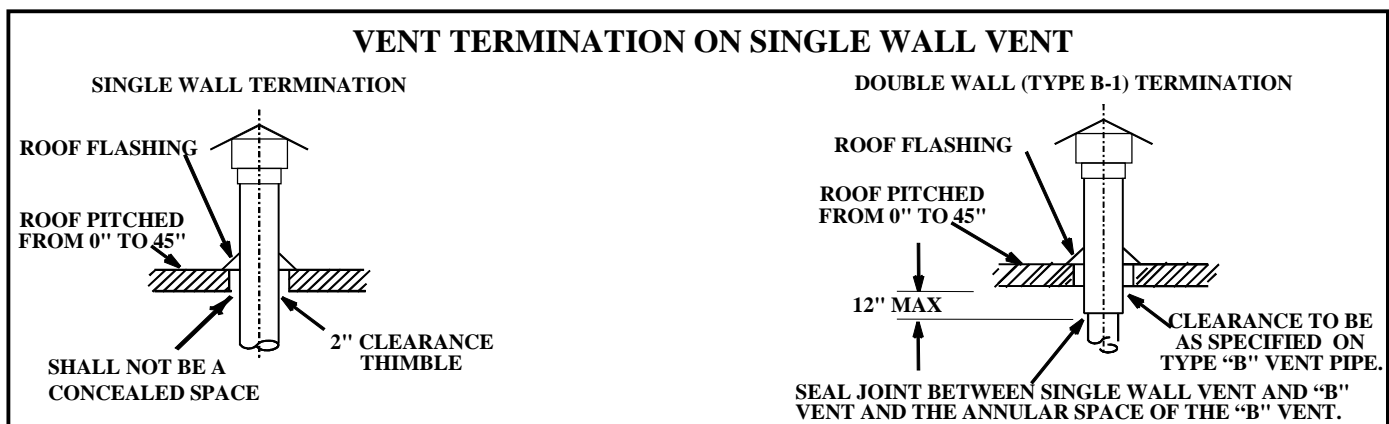
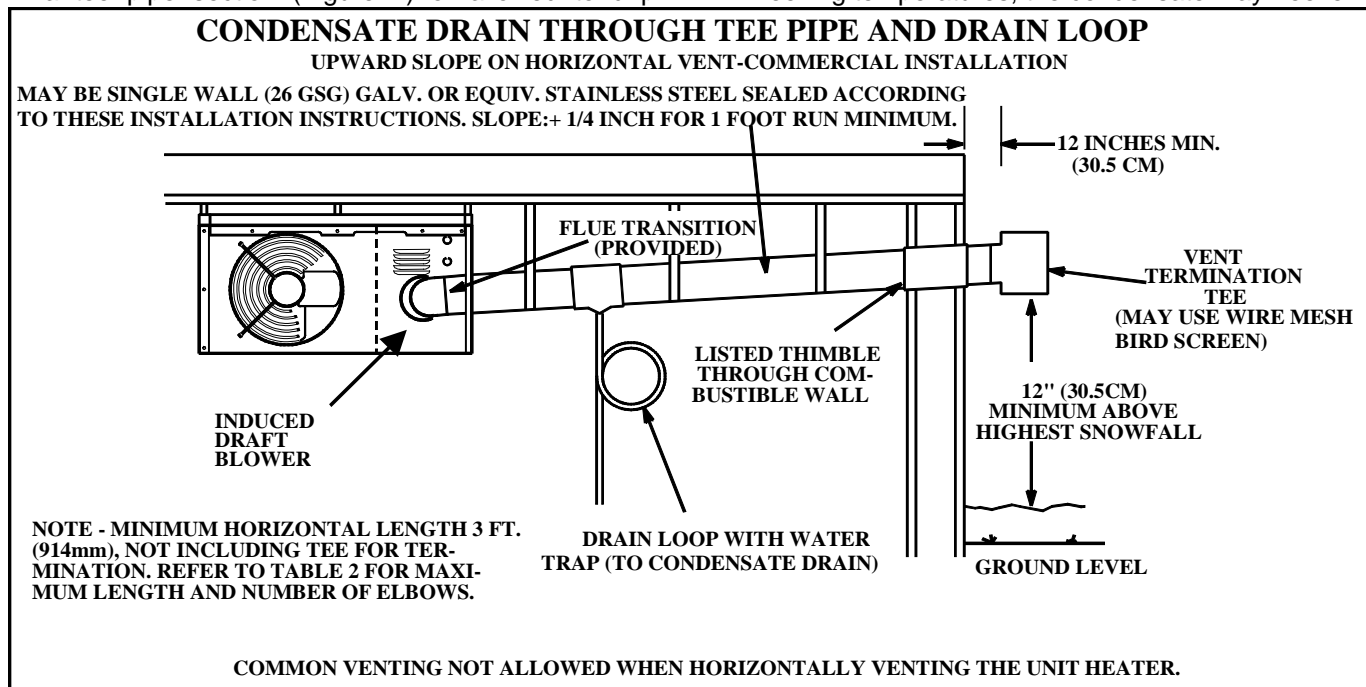

FIGURE 2
FIGURE 3
- 1- These unit heaters are to be used with NFPA- or ANSI- approved chimneys, U.L. listed type B-1 gas vents, single wall metal pipe, or listed chimney-lining system for gas venting where applicable, as well as the modifications and limitations listed in Figure 2. Seal single wall vent material according to the section **A-General Recommendations and Requirements**.
- 8- When termination is routed through an exterior combustible wall the vent must be supported using a listed clearance thimble. Where local authorities permit, a single section of type B-1 vent pipe may be used as an alternative to the thimble. When using a type B-1 vent termination use the clearances specified by the vent manufacturer. Seal the connection between the single wall and double wall pipes and the annular space of the double wall pipe as shown in Figure 2. Inside edge of vent termination tee must be at least 12"es from outside wall as shown in Figure 3.
- 1- Horizontal commercial installations are for buildings which are not attached to living spaces. The vent may be single wall vent material installed according to the sections **Venting A - General Recommendations and Requirements** and **C - Horizontal Venting - General** and **D - Horizontal Venting - Commercial**. Refer to Figures 3, 4, and 5.